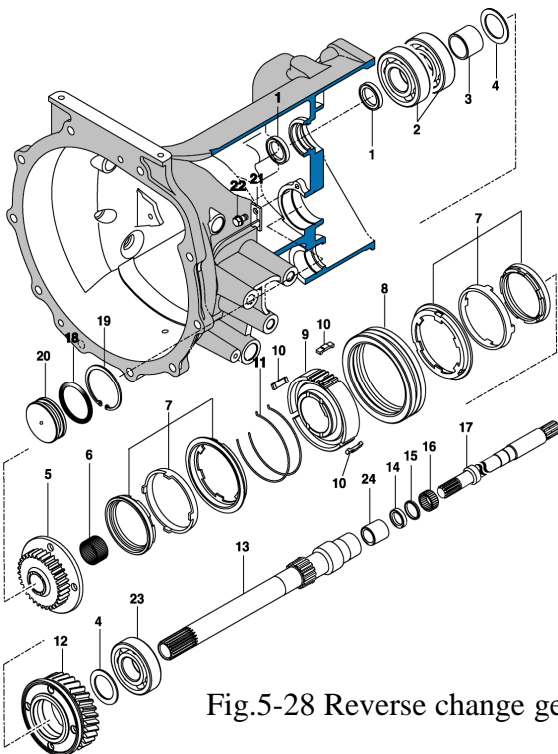

Fig.5-28 Reverse change gears
- a. Install the reverse gear assembly from the spacer transmission referring to the description (Fig 5-27), (Fig.5-28), (Fig.5-291)